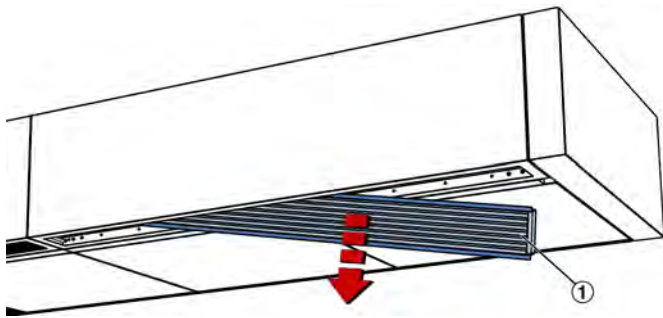

Fig. 88: Disassembly of the supply air grille
2. ▶ Lift the supply air grille (Fig. 88 /1) slightly, turn it and remove it. Store safely for later assembly.